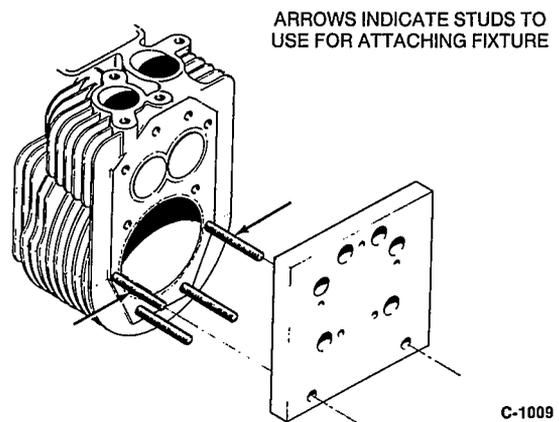

FIGURE 69. REPAIR FIXTURE
- Fit the special repair fixture (Onan Tool #420-0398) to the surface of the block. Use the studs shown in Figure 69 and two cylinder head nuts to secure fixture to head of block.